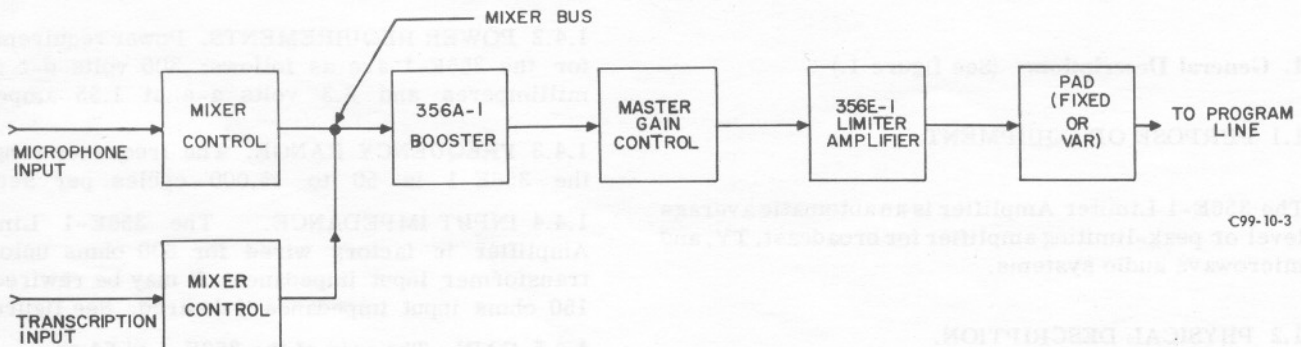

Figure 2. Collins Type 356E-1 Limiter Amplifier as Automatic Fader Control, Suggested Arrangement
**2.1.2 THE 356E-1 USED AS AUTOMATIC FADER CONTROL.** Refer to figure 2. The 356E-1 is plugged into J108 of the 212F-1 Broadcast Console. Operate the switch on the 356E-1 to DUAL position. Adjust the mixer in the transcription channel until the GR meter indicates a 2- to 5-db gain reduction. Adjust the mixer in the microphone channel until the microphone signal